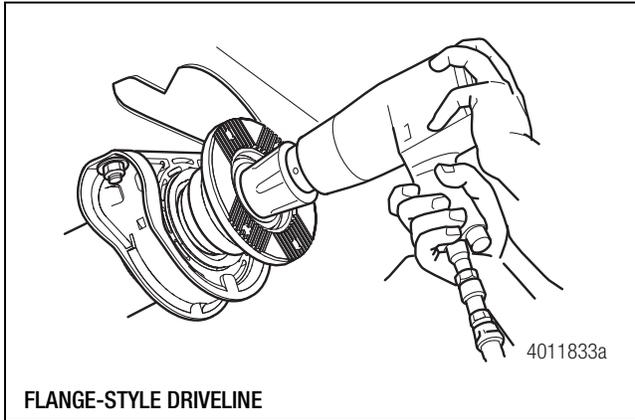

Figure 9.5
1. Remove the coupling shaft yoke or flange nut. Discard the nut. Inspect the washer. You can reuse the washer if it's not damaged. Figure 9.4 and Figure 9.5.